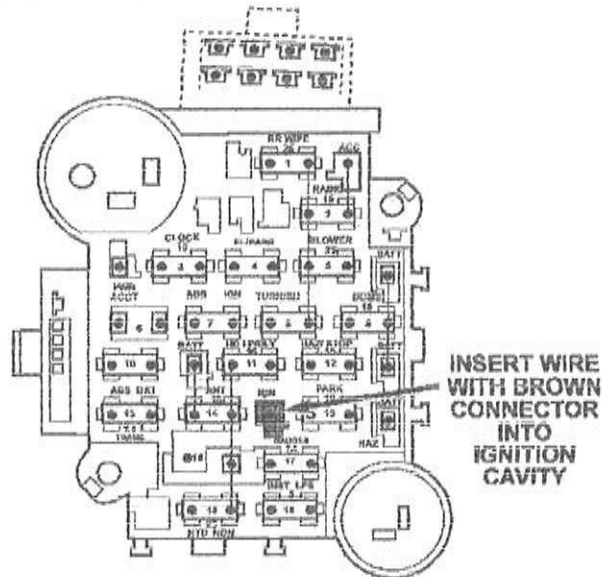

Figure 18
38. Connect the BROWN wiring harness single wire connector to the fuse block. Insert the connector into the fuse block **IGNITION FEED** location marked "IGN" (Figure 18).